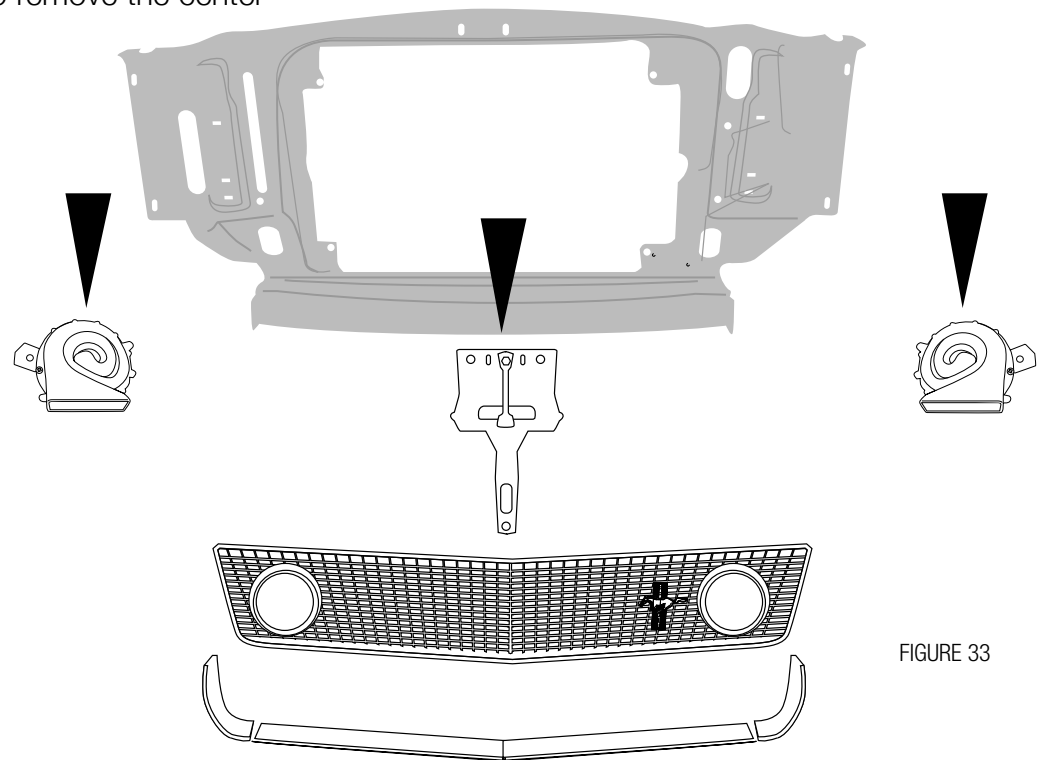

FIGURE 33
**STEP TWO:** During the next steps you'll be installing the condenser, drier, and routing the pressure switch wire and the A/C line(s). Since much of this is installed in the OEM location for the condenser, you'll need to remove the center grill section, horn(s), and latch support assembly (see figure 33). Be sure to retain all the mounting screws – you'll reinstall these pieces in the exact reverse order with the OEM screws.